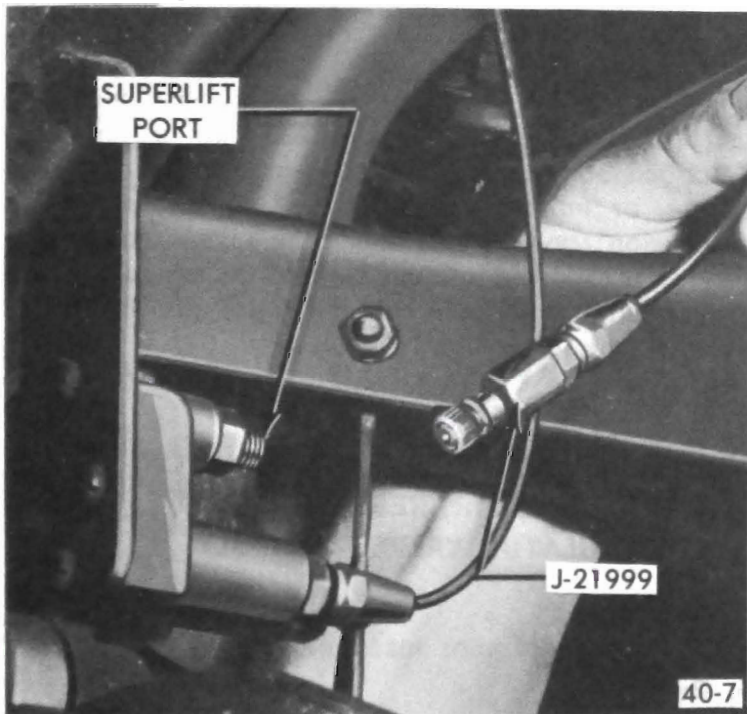

Figure 40-29 - Remove Superlift Air Supply Line
2. Remove Superlift air supply line at height control valve. See Figure 40-29.